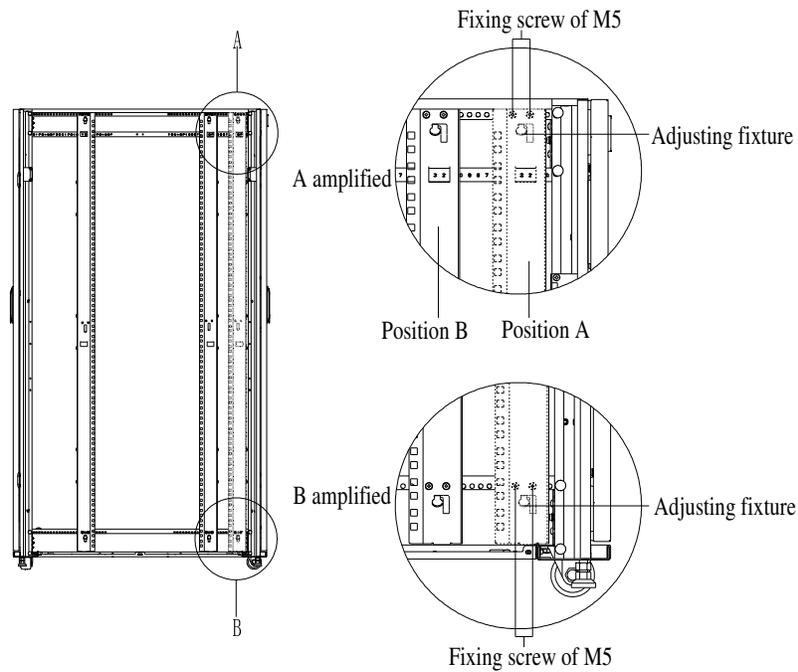

Figure 3-1 EIA Rail Adjustment
1. As shown in Figure 3-1, use a screwdriver to loosen four M5 combination screws (2200mm height rack with three adjusting fixtures and six M5 combination screws for reference), move the right front EIA rail from position A (factory mounting position) to position B (user desired position), use M5 combination screws to lock the EIA rails.